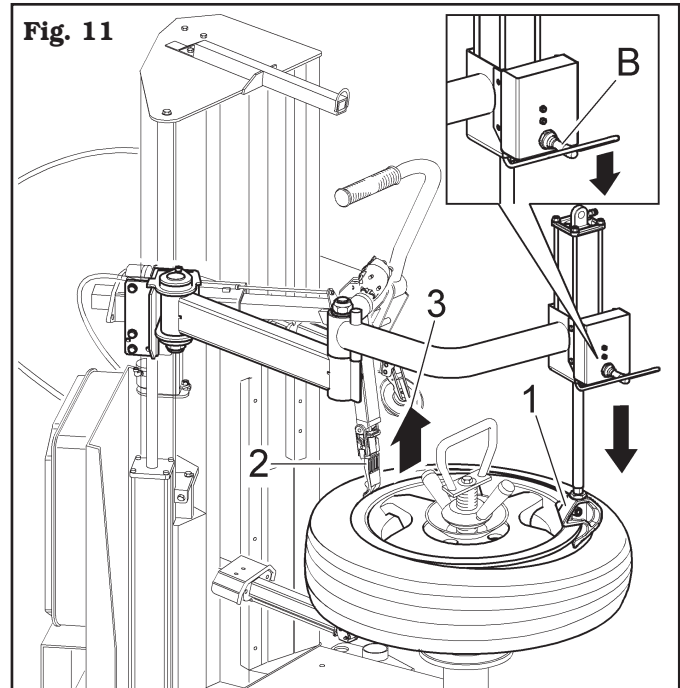

Fig. 11
a - Introduce the upper tool (**Fig. 11 ref. 2**) between rim edge and tyre so that the bead of the same tyre is hooked.
b - Place wedge tool (**Fig. 11 ref. 1**) at approximately 180° from machine-head axis (as shown in figure) and lower the tyre by operating control unit's lever downwards (**Fig. 11 ref. B**), until tyre's bead is placed next to rim's groove.
c - Lift the upper tool (**Fig. 11 ref. 3**) up to demounting position above rim's edge.